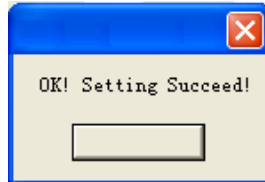

Fig. 7.10.13 Setup Time Succeed
d. Display system time in this dialog box, click " Set ", cue shown as Fig. 7.10.13 appears, to renew time of x-Messenger succeed.